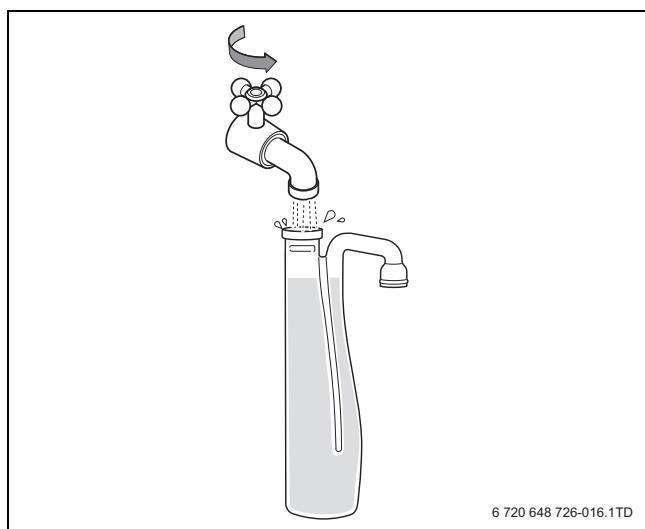

Fig. 16 Filling the condensate trap with water
- Fill the condensate trap (supplied with the boiler) with water (→ fig. 16).